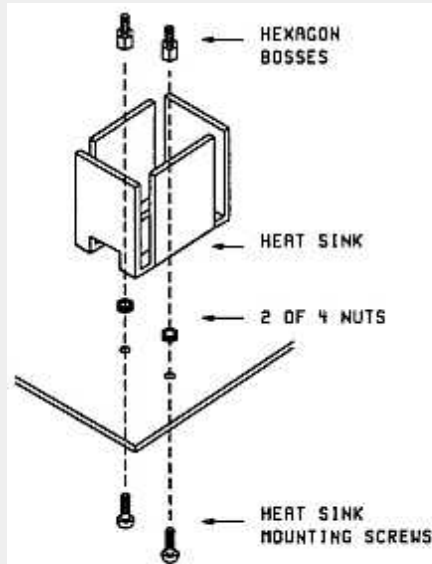

FIGURE 3
8. Remove the two nuts from the heat sink mounting screws. Figure 3.
9. Replace the mounting screws with the ones in the kit. If the original screws have been soldered to the board, remove the excess solder and while the screws are still hot, turn the board upside down to allow the screws to fall onto the workingsurface. Figure 3.
10. Secure the new mounting screws with the two nuts that were removed in step 8. Figure 3
11. Install the heat sink and secure it with the two hexagon bosses from the kit. Figure 3